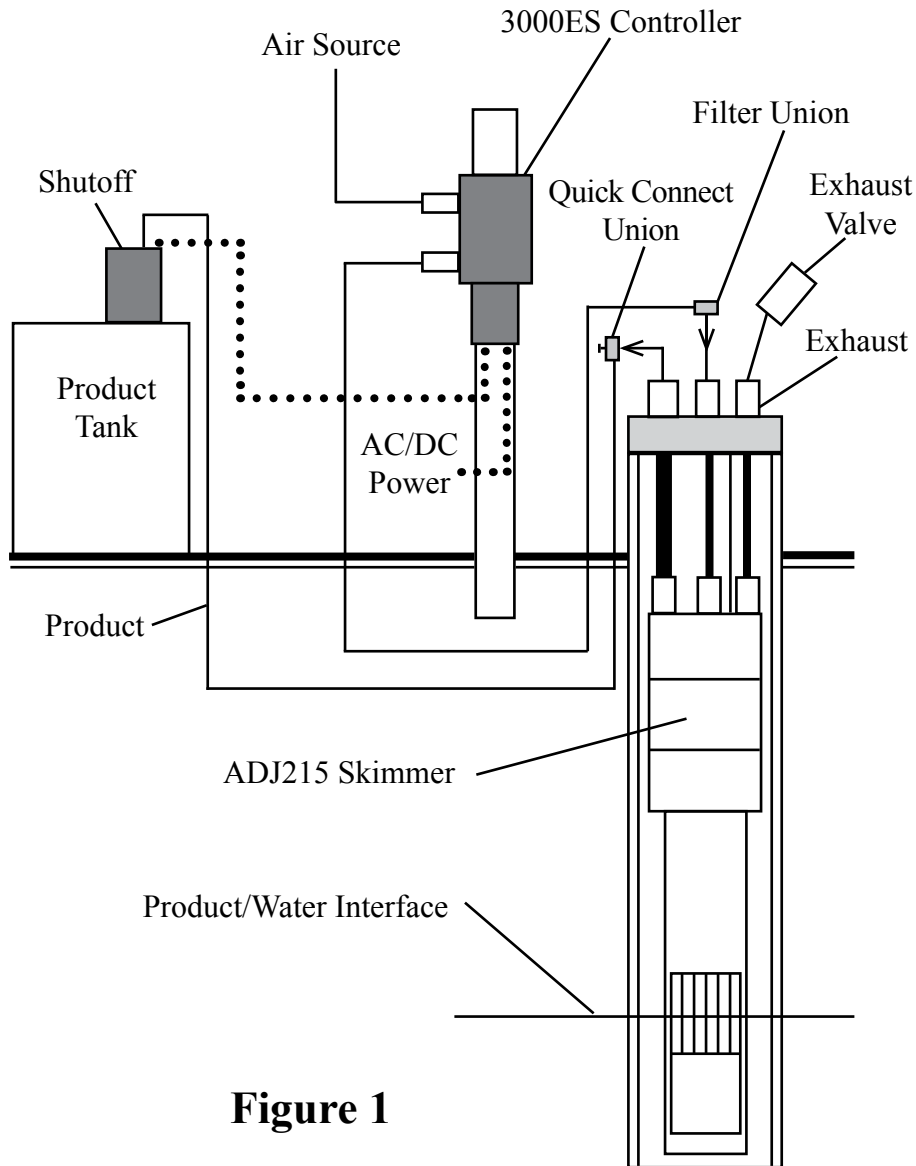
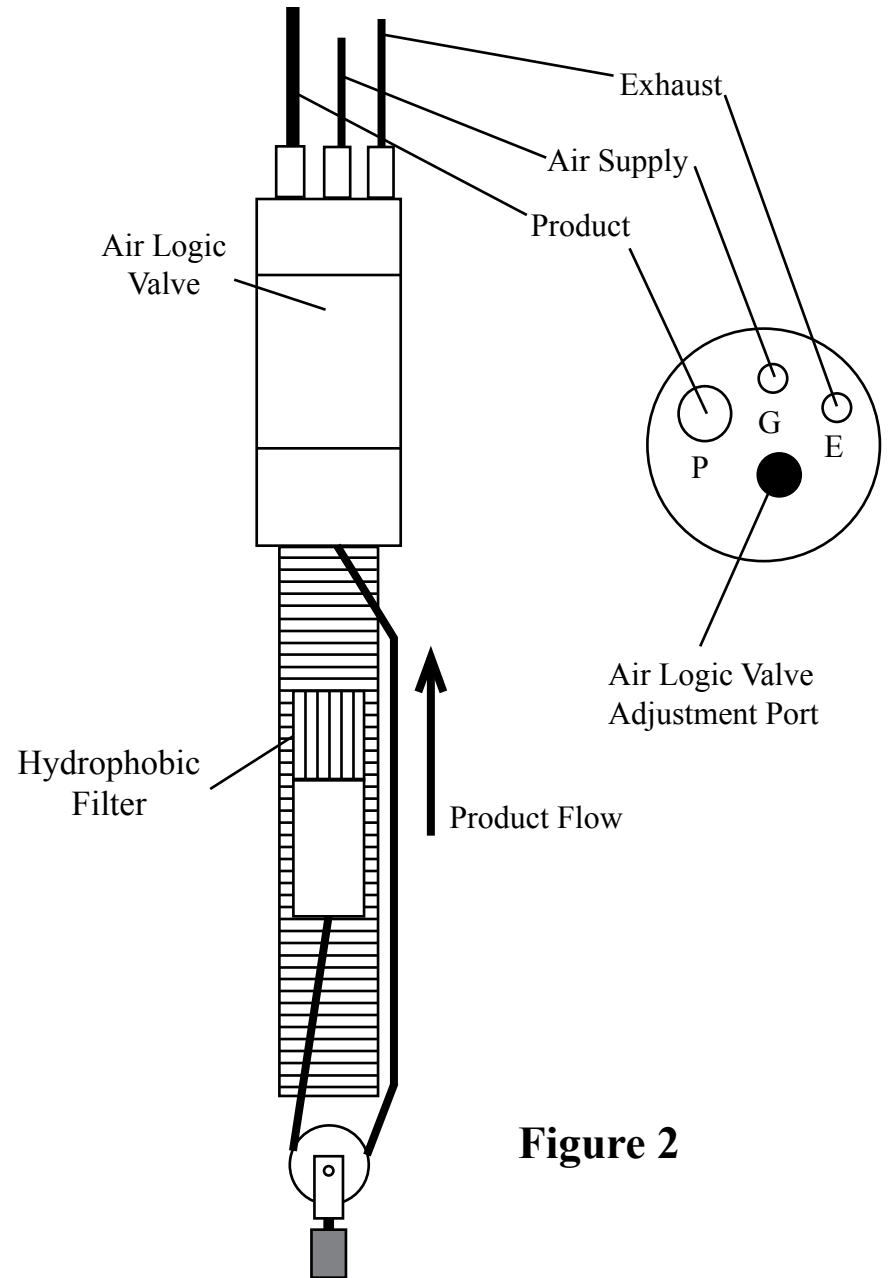

Figure 1
Figure 2
The system (Figure 1) relates to floating hydrocarbon recovery in wells two inches in diameter and larger. This system includes: an intrinsically safe ADJ215 pneumatic Smart Skimmer (Figure 2) which removes only the product to a sheen down to 200 feet deep; and a three function programmable Controller Model 3000ES which operates the skimmer intermittently, records run time, and has a high level tank shutoff.
STEP 7. Position the skimmer and well cap on the ground near the well. Cut a length of 1/4" OD air supply tubing to cover the distance from the top of the well down to water/product interface, plus 5 feet. **NOTE:** If the skimmer is over 70 feet deep, use 3/8" OD air supply tubing in stead of 1/4" OD tubing. Slide enough tubing through the well cap and attach the end of the tubing to the top of the skimmer tube fitting labeled "G" (Figure 2). If the product thickness is greater than 1 foot, position the center of the skimmer screen 1 foot below top of product. If the product thickness is less than 1 foot, position the center of the skimmer screen at the water/product interface.
STEP 8. Cut a length of 5/16" OD product tubing same length as the air supply line. Install 5/16" OD product tubing through the well cap tube fitting labeled "P" (Figure 2). Slide enough tubing through the well cap and attach the end of the tubing to the top of the skimmer tube fitting labeled "P". **CAUTION:** Do not kink the tubing.